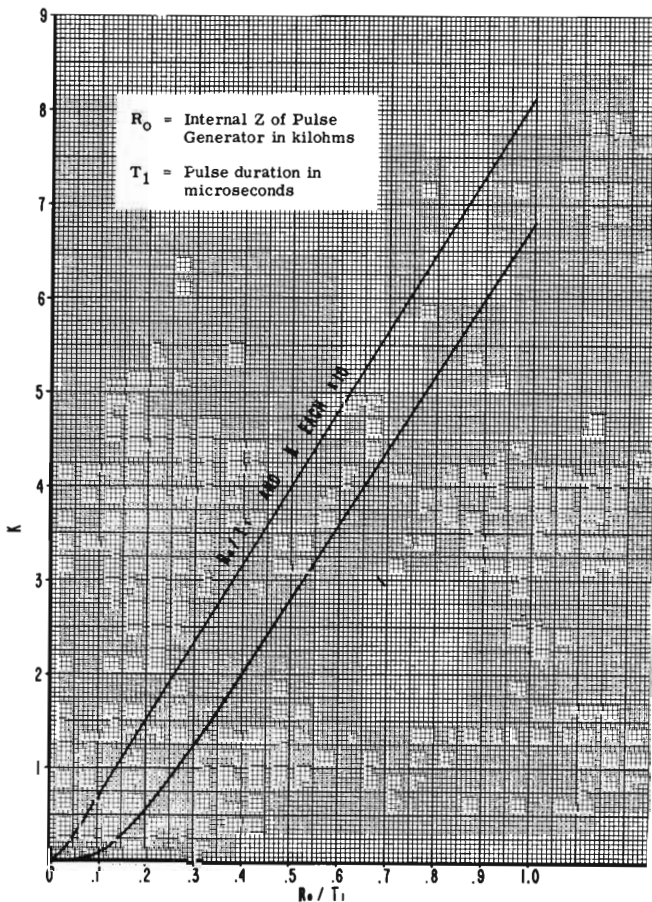

Figure 2-5. Graph used in Calculation of Pulse Voltages
- K is a factor which is a function of the source impedance of the pulse generator and of t_1 , and is found in the graph of Figure 2-5.
K can be found by use of the curve in Figure 2-5 when the impedance of the pulse generator R_0 in kilohms and the duration of the positive portion of the pulse t_1 in microseconds are known.
For the case of a 10 microsecond negative pulse and a pulse repetition frequency of 1000 pulses per second, t_1 would be 990 microseconds and t_2 would equal 10 microseconds. Thus, R_0/t_1 would be approximately 0, and therefore (from Figure 2-5) K would also be approximately 0. The multiplying factor would then be